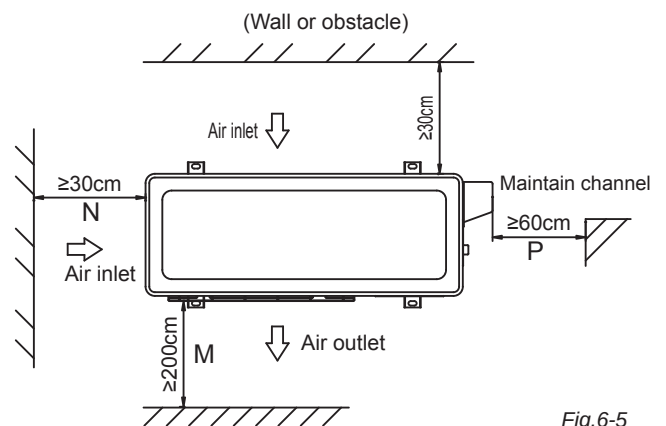
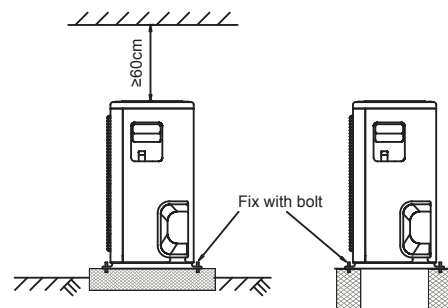

Fig.6-5
Fig.6-6
- The minimum distance between the outdoor unit and obstacles described in the installation chart does not mean that the same is applicable to the situation of an airtight room. Leave open two of the three directions. (Refer to Fig. 6-5, Fig. 6-6)
- Fasten the feet of this unit with bolts firmly to prevent it from collapsing in case of earthquake or strong wind. (Refer to Fig.6-6)